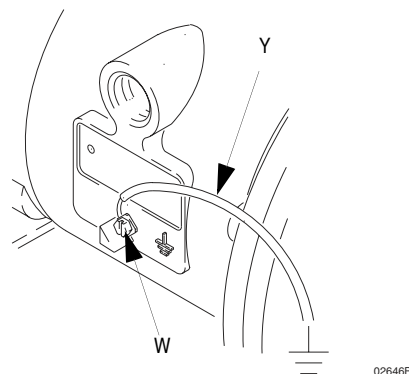

FIG. 1
- Pump:** Connect a ground wire and clamp as shown in Fig. 1. Loosen the grounding screw (W). Insert one end of a 12 ga (1.5 mm²) minimum ground wire (Y) behind the grounding screw and tighten the screw securely. Connect the clamp end of the ground wire to a true earth ground. Order Part No. 222011 Ground Wire and Clamp.